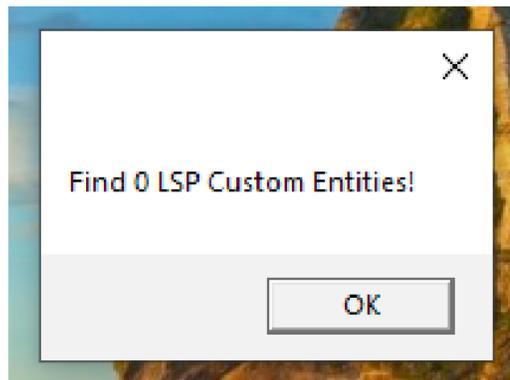

Figure 19
2. Enter the Genetec Security Center directory, user name, and password and click Login. If the login is successful, a popup will appear with the number of found LSP entities (Figure 19).